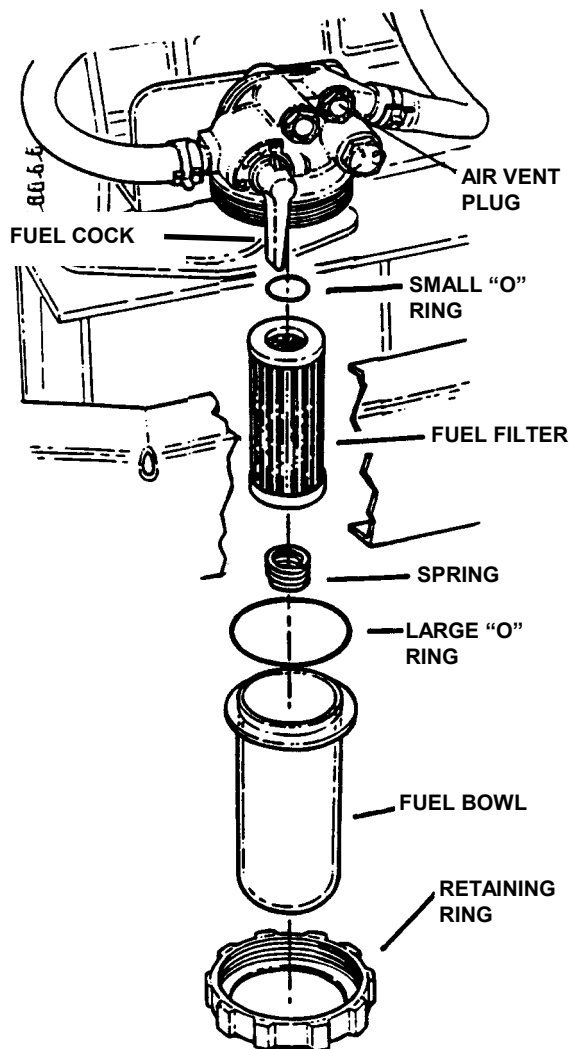

FIGURE 4.8
2. Remove the fuel filter bowl retaining ring. Fuel filter bowl, two "O" Rings, spring and filter can be removed. See Figure 4.8.